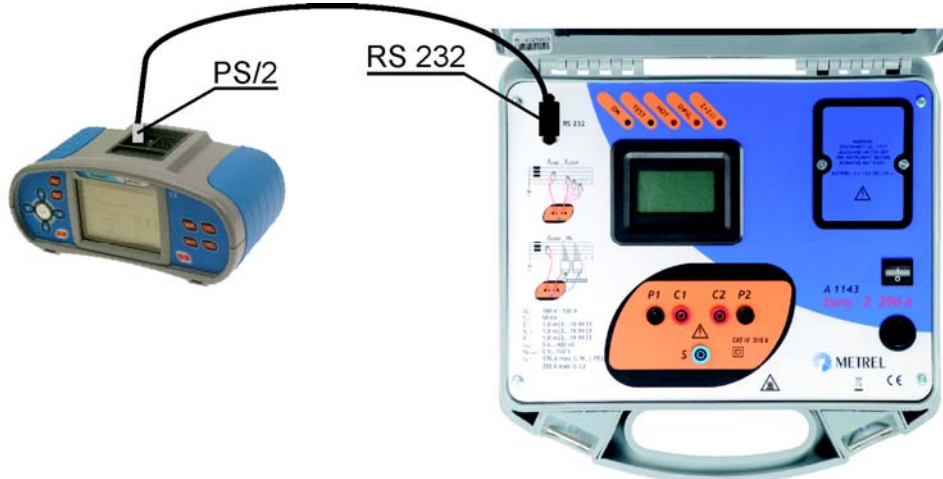
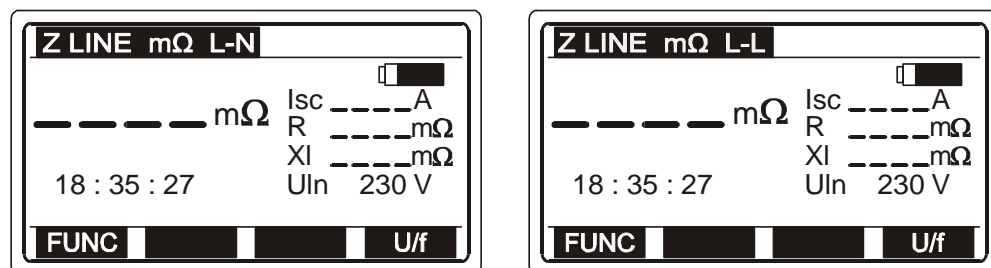

Figure 4.2: Connection of the Euro Z 290 A adapter to the Eurotest AT (XA)
Figure 5.1: High precision line impedance menu
- For measurement L-L and/or L-N impedance see chapter 5.1, figure 5.1.
- ❑ Connect communication interface cable RS 232_9pin_female / PS 2 to the Eurotest AT (XA) and the Euro Z 290 A. See figure 4.2.
- ❑ Select measurement function (Z-LINE or Z-LOOP) on the Eurotest AT (XA).
- ❑ The Eurotest AT (XA) recognizes the adapter*.